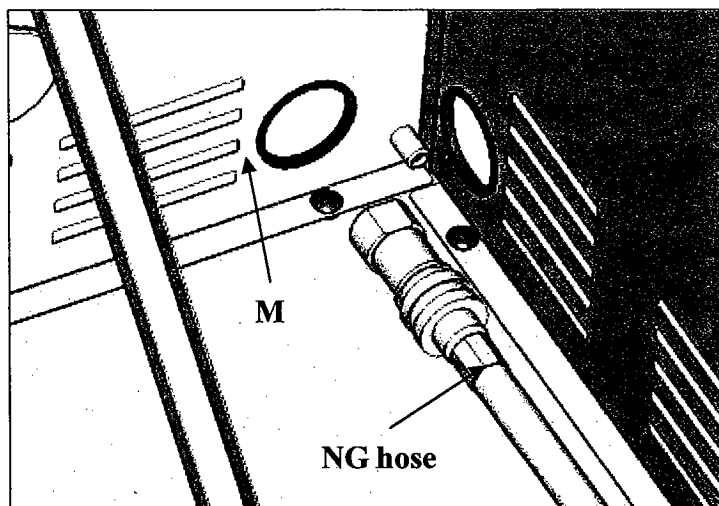

Fig. 19
- f. On the NG model, pass the natural gas hose through the hole in the rear panel (M) to your gas supply system. Refer to Fig 19.